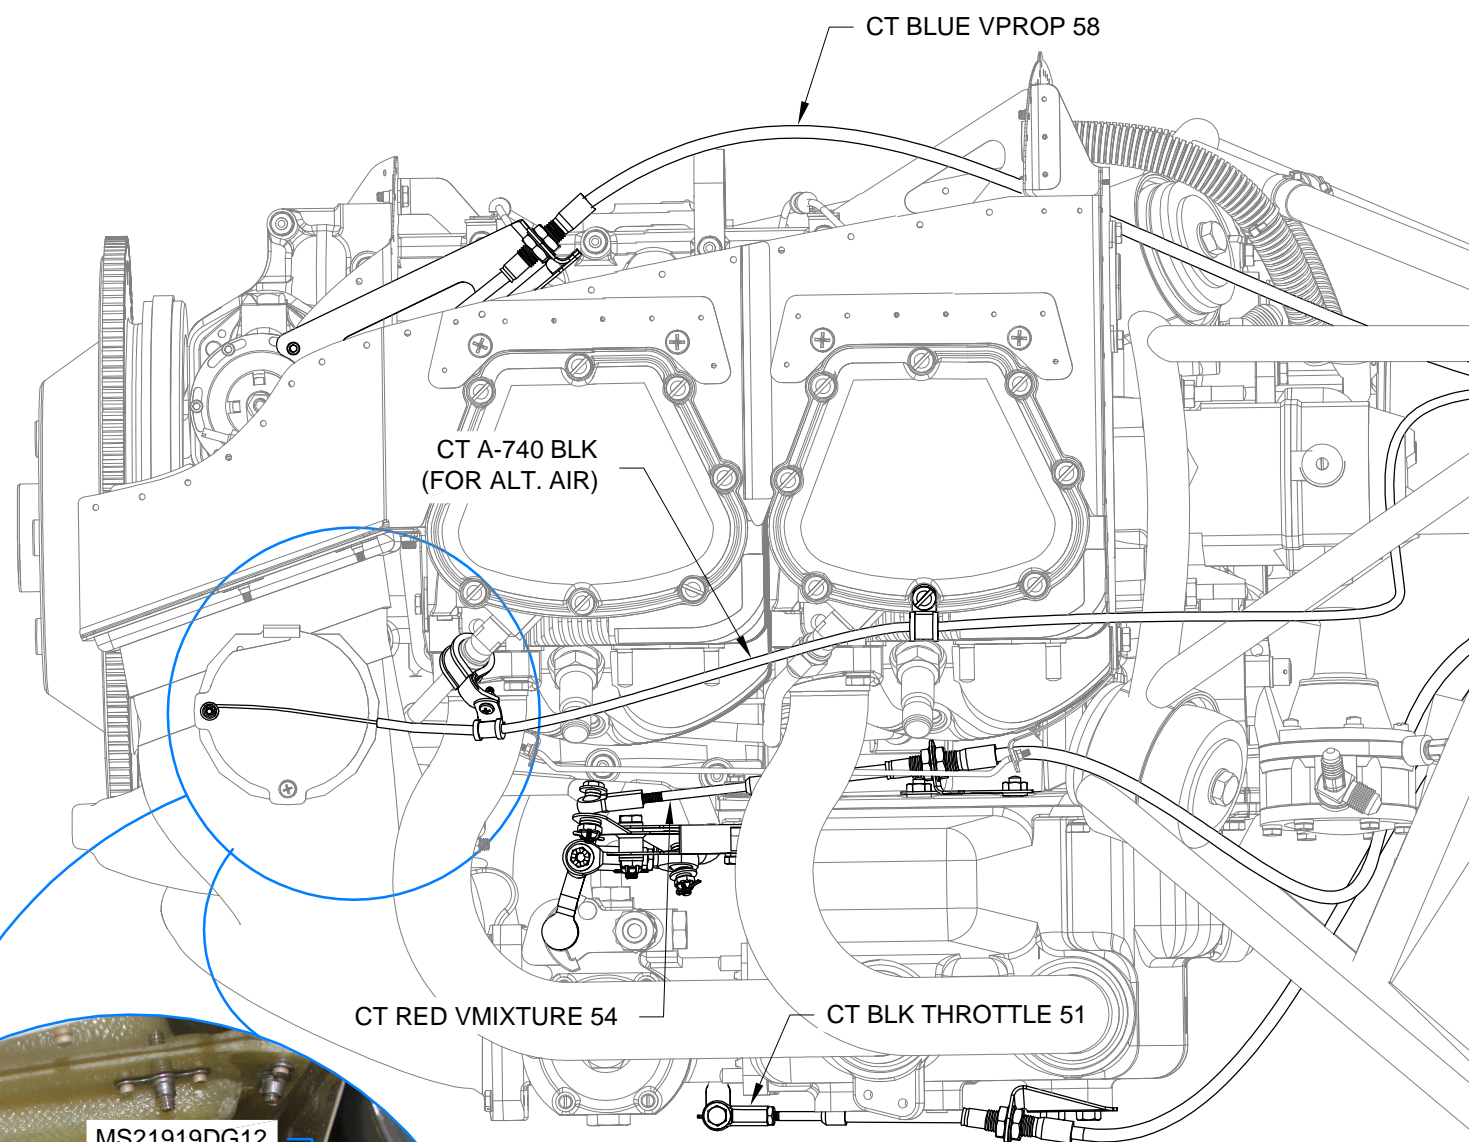

FIGURE 4: ALT. AIR INSTALLATION & CONTROL CABLE ROUTING (LEFT SIDE)
Step 2: Install the clamps and route the alt. air control cable as shown in Figure 4. Leave the forward end of the cable loose for now.
Step 8: Use safety wire to secure the alt. air cable housing to the clamp as shown in the detail view in Figure 4.